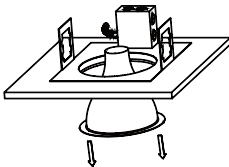

Fig. 2
- Step 2:** If existing lamp and trim are present, remove from ceiling or move it out of the way as it will not be needed during installation. Measure the ceiling opening to make sure the edge of the luminaire will cover the entire hole and still sit firmly in the ceiling before proceeding (Fig. 2).